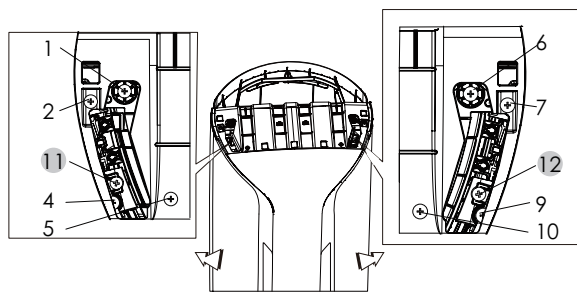

Fig.10
(2)Push left and right side plates to open status, and then loosen #11 screw and #12 screw in the screw holes.(As show in Fig.10)